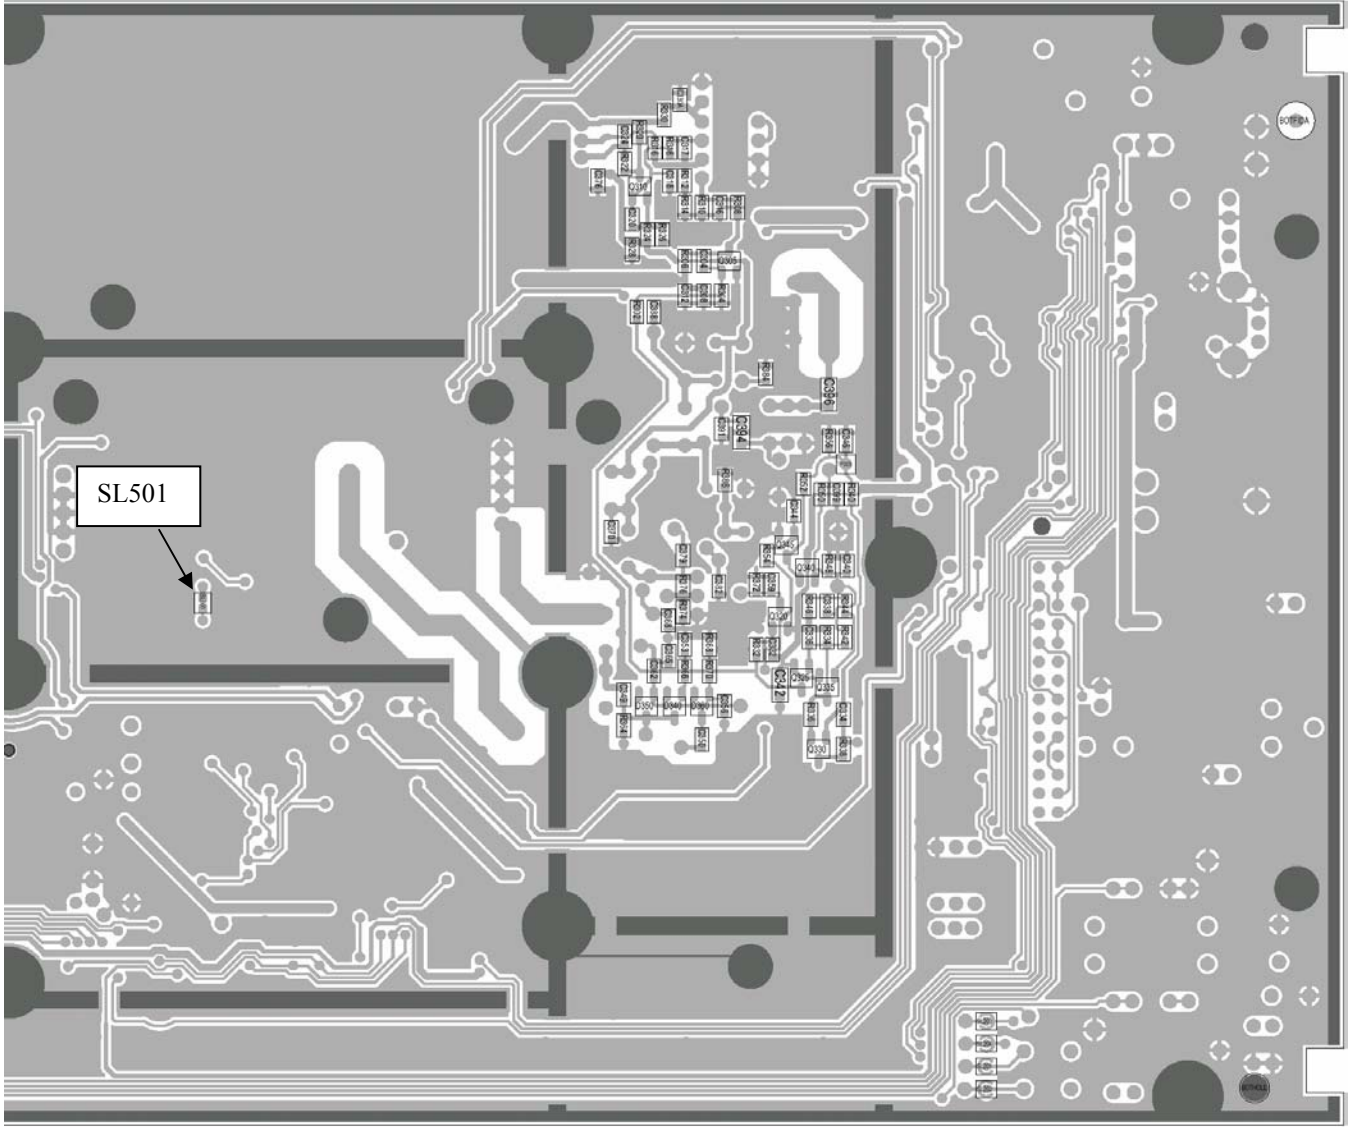

Figure 6 T837 PCB Layout- bottom side 2/2
9. Set the Exciter to the Fast Transmit Turnon mode (Fast TX Key) by soldering a zero ohm resistor at SL501. Refer to Figure 6 page 11